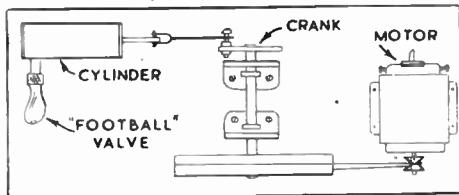

Fig. 3—Plan of a simple piston pump
tory Fig. 3 shows how such a pump can be made up. An electric motor is shown for driving, and this, operated from the mains, is the only really practicable method, in view of the long periods of running which are necessary.
The crank is made from a disc, shown at (B), with a small bolt to pivot the link or connecting rod. The diameter of the disc is such that the piston makes a good movement in the cylinder, yet does not foul either end. The link (C) is made from two pieces of fairly stout metal soldered together, the ends being opened so that one goes each side of the piston-rod, as seen in Fig. 3. To hold the piston-rod central in the cylinder, an end with air-holes is soldered on, as shown at (A).
If a piece of a cycle pump has been used the valve can be screwed into the end. If not, it will need to be soldered in a suitable hole either at the end of the cylinder, as in Fig. 3, or in the disc closing the tubing from which the cylinder is made. A suitable piece of rubber tubing can be pushed on the end of the valve to take the air to the aerator tubes.